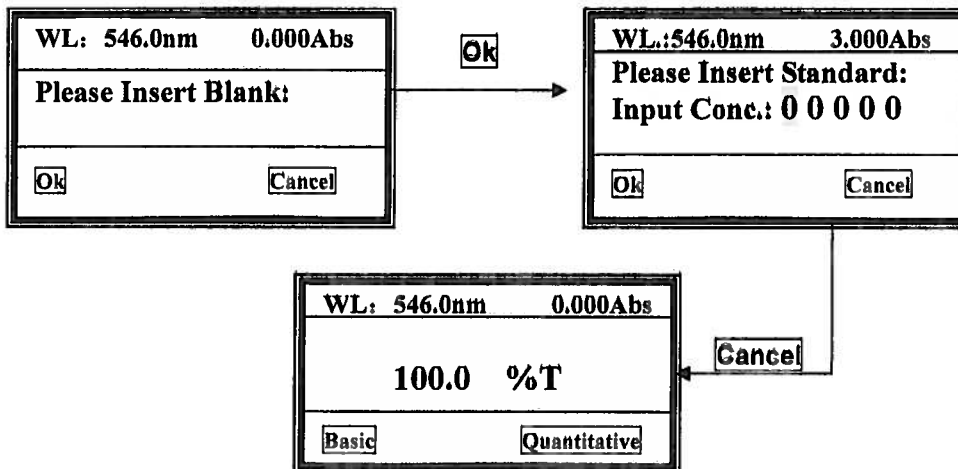

Fig. 3-20
- 3) Press **Ok** (F1) to blank. Then system asks you to input the standard's concentration. (Fig. 3-20)